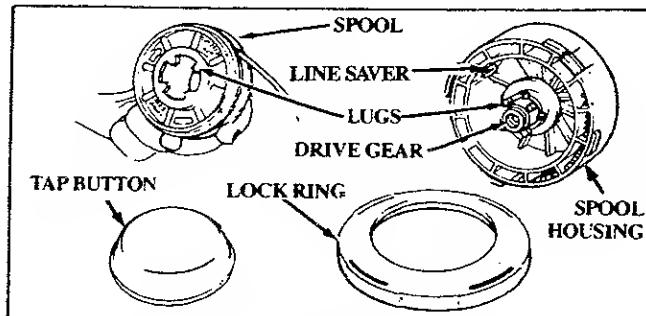

Figure 17
- b. Remove the lock ring, tap button, and spool. Figure 17.
**NOTE:** After a groove is worn into one side of the aluminum line saver, the line saver can be turned upside down and reinstalled (with the spool removed) to provide a new wear surface. Figures 17 & 18.